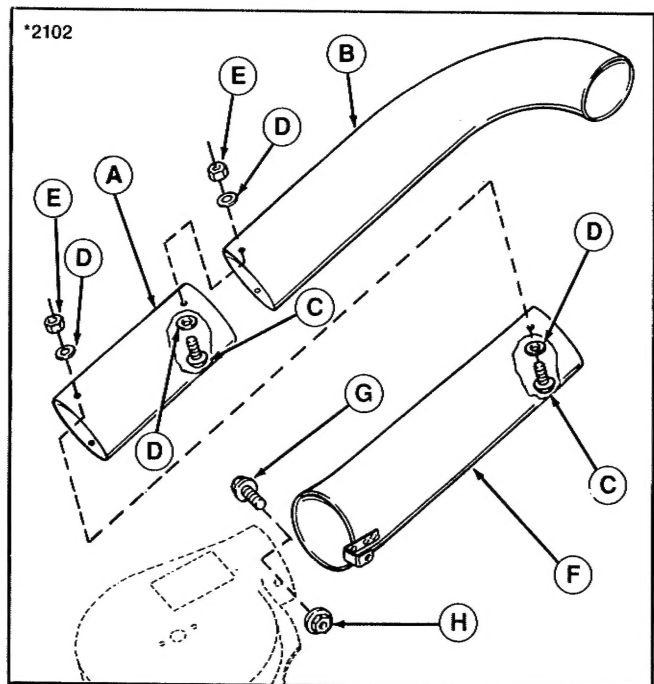

Figure 8.
11. Assemble the middle tube (A, figure 8) to the upper tube (B) with 10-32 x 1/2" trusshead screws (C, from inside), flat washers (D), and nut/washer assemblies (E).
12. Assemble the lower tube (F, figure 8) to assembled upper tube with 10-32 x 1/2" trusshead screws (C, from inside), flat washers (D), and nut/washer assemblies (E).
13. Install the 1/4-20 x 5/8" roundhead bolt (G, figure 8) through the inside of turbo housing discharge as shown in figure 11. Secure with 1/4-20 locknut (H).